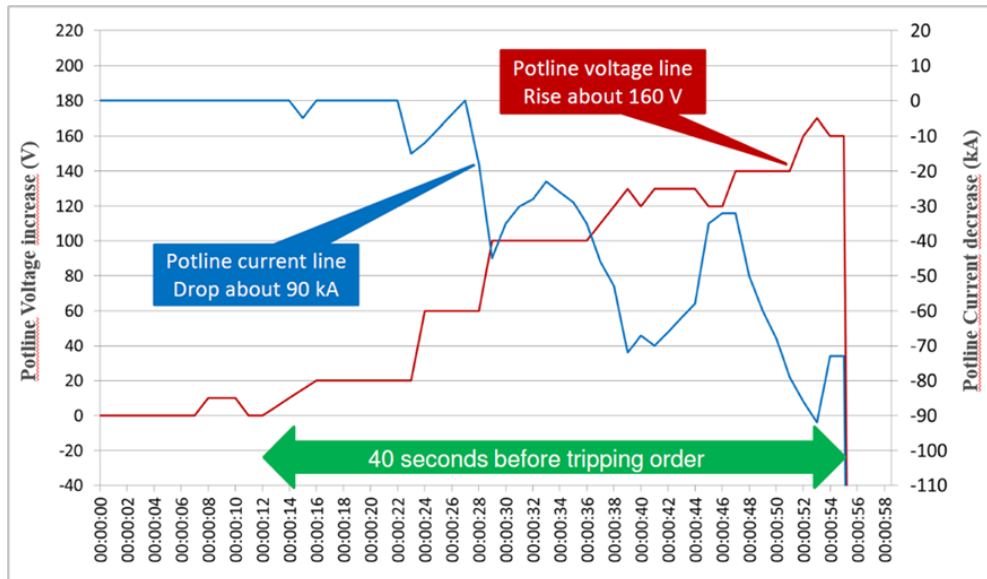

Figure 1. Example of potline current and voltage at the beginning of an open circuit.
Potline protection against open circuit is not done by the PCS; it is managed by the substation. The substation monitors in real time the potline voltage and the potline current. During an open circuit, the potline voltage increases until the substation reaches its maximum power limit. Then the potline current decreases significantly. An open circuit is then detected when the potline voltage is high, and the potline current is low. Upon detection, the substation immediately cuts the power to the potline to stop the incident. An example is given in Figure 1. This is probably the oldest and the most standard open circuit protection. It is very effective, but it has some disadvantages. Its main weakness is its inability to make the difference between several anode effects (AE) happening simultaneously and an open circuit happening on one pot. At the beginning of the phenomenon, as seen from the substation, both give the same result: Potline voltage increases rapidly, and potline current is maintained at its setpoint as much as possible by substation rectifier regulation.